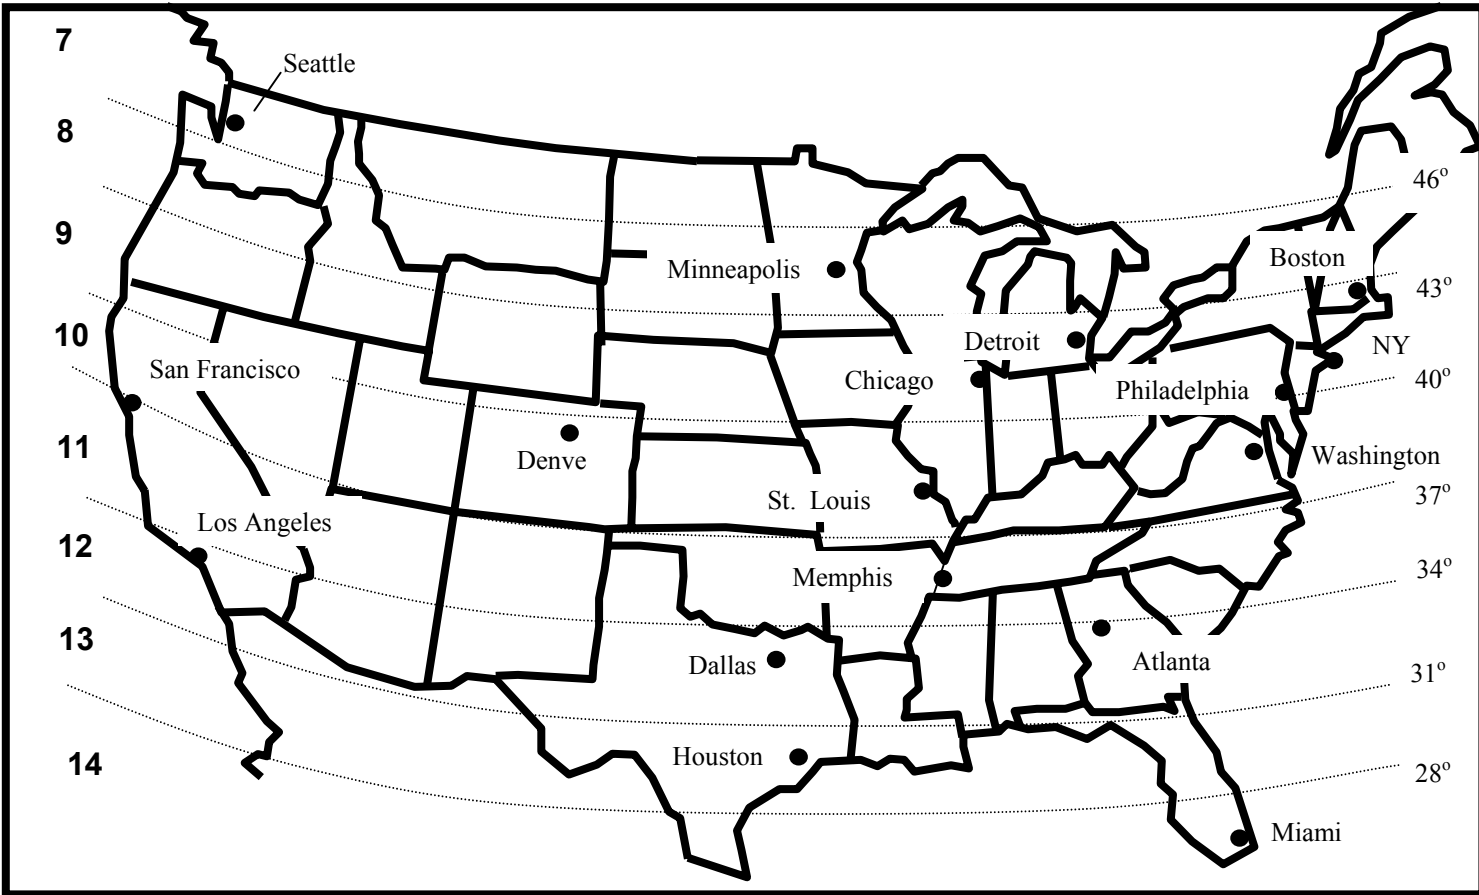

Figure 2-2 : Latitude Compensation Zones (USA)
- Step 4. Turn the scale's AC power on to begin use. When the scale is switched on for the very first time, the message "**d-ZonE**" appears on the display. Press the numeric key corresponding to the correct geographic area in the map shown in Figure 2-2 then press the **SAMPLE / SAVE** key to save. **Note** – If there is no corresponding geographic area, enter "0" then press the **SAMPLE / SAVE** key. No gravitation adjustment will be performed.